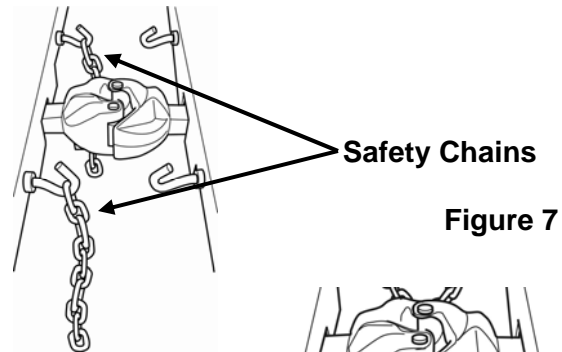

Figure 7
1. Disconnect the Safety Chains on each side of the Coupler (See Figure 7).